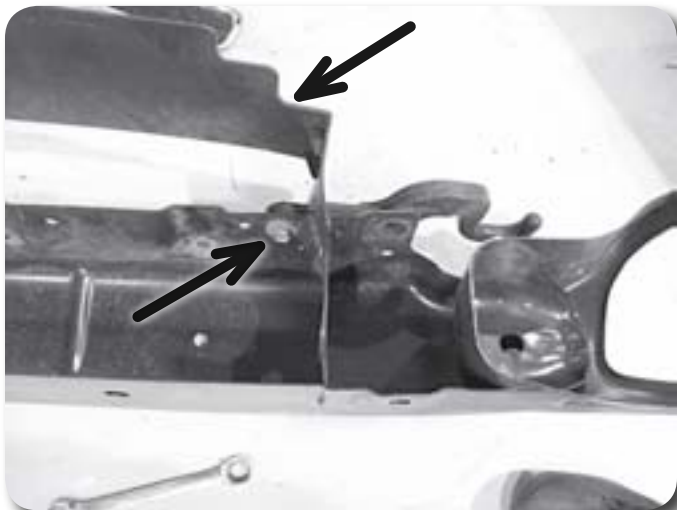

Figure 6
9. Remove the bolts mounting the tow hooks to the bumper **Figure 6**. These cannot be reinstalled after the bumper is relocated.
10. Remove the plastic shroud from the inside of the bumper **Figure 6**. It will not be reused